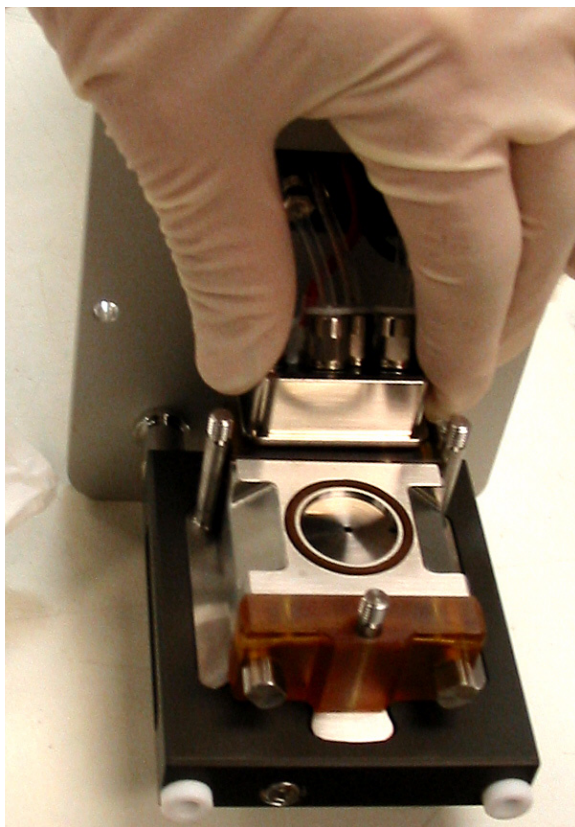

Figure 62. Disconnecting the gas and voltage connector from the electrode assembly
2. Carefully disconnect the gas and voltage connector from the electrode assembly, as Figure 62 shows.
3. Carefully seat the gas and voltage connector onto the left endcap. Make sure that it is completely seated, as Figure 62 on page 87 shows.